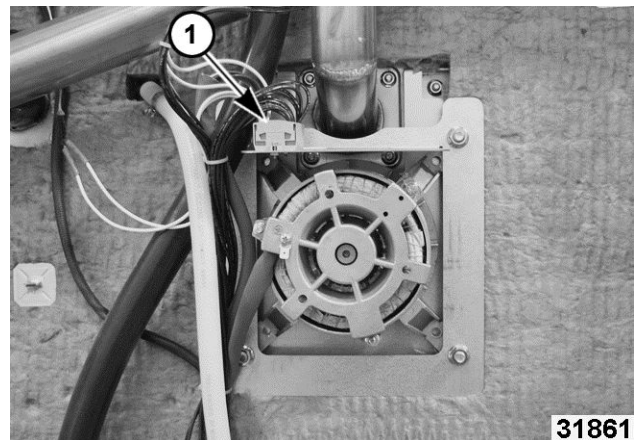

Fig. 57
- Remove motor shroud (1, Fig. 57).